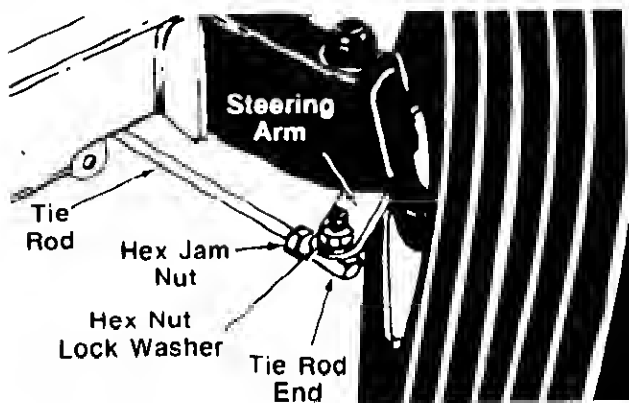

FIGURE 22.
- 1 Remove the hex nut and lock washer, and drop the tie rod end from the wheel bracket. See figure 22.